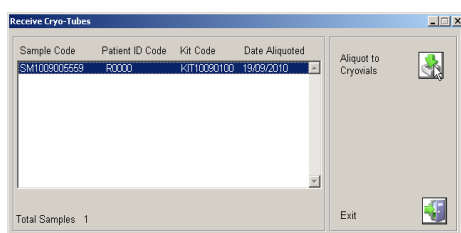

Figure 7 – 'Receive Cryo-Tubes' screen
7. The '**Storage location screen**' will appear, select the numbered cryovial and select the '**Aliquot**' icon . The '**Receive Cryo Tubes**' screen will appear (Figure 7), highlight the sample by clicking on it and choose on the '**Aliquot to Cryovials**' icon, and the current day's date will appear in the '**Date Aliquoted**' section. Click on '**Exit**'  to close the screen.